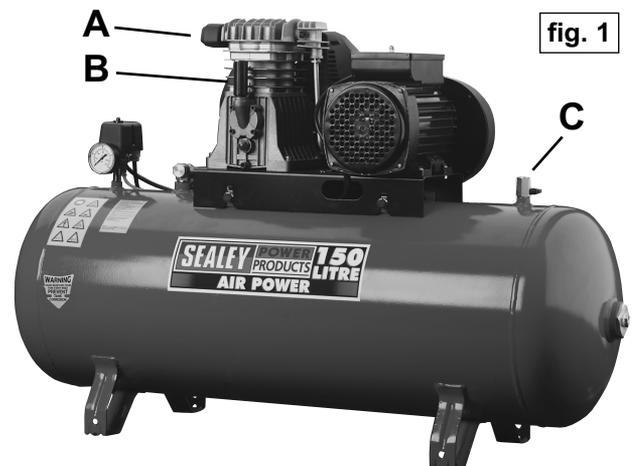

fig. 1
- 7 **DO NOT** operate the compressor without an inlet air filter (see fig.1.A).
- 3.5. Confirm that the air filter (fig.1.A) is fitted to the inlet port of the cylinder head and that the breather (fig.1.B) is fitted to oil filler port.
- 4.3. When starting the compressor for the first time, leave it running with air outlet (fig.1.C) closed. Make sure that the pressure in the tank rises and that the compressor stops automatically when the max. pressure value allowed - written on the plate and shown on the gauge (fig.4.2) - is achieved. The compressor will now operate automatically. The pressure switch stops the motor when the maximum tank pressure is reached and restarts it when pressure falls below the minimum threshold - approx. 2 bar (29psi) less than the maximum pressure.